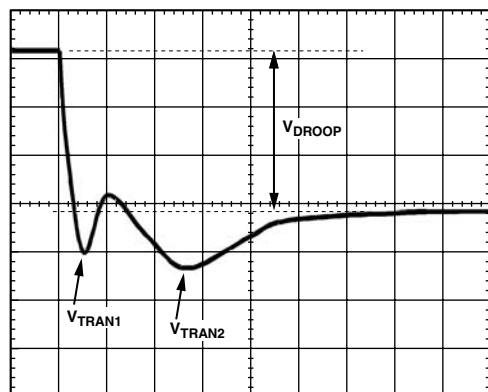
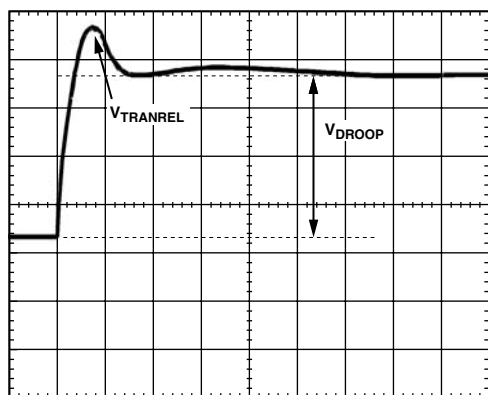

Figure 4. Transient Setting Waveform
Figure 5. Transient Setting Waveform
19. With dynamic load still set at maximum step size, expand scope time scale to see 2  $\mu\text{s}/\text{div}$  to 5  $\mu\text{s}/\text{div}$ . The waveform may have two overshoots and one minor undershoot (see Figure 5). Here,  $V_{\text{DROOP}}$  is the final desired static value.
21. For load release (see Figure 5), if  $V_{\text{TRANREL}}$  is larger than  $V_{\text{TRAN1}}$  (refer to Figure 4), there is not enough output capacitance. Either more capacitance is needed or it is necessary to make the inductor values smaller (if inductors are changed, it is necessary to start design over using the spreadsheet and this tuning guide).